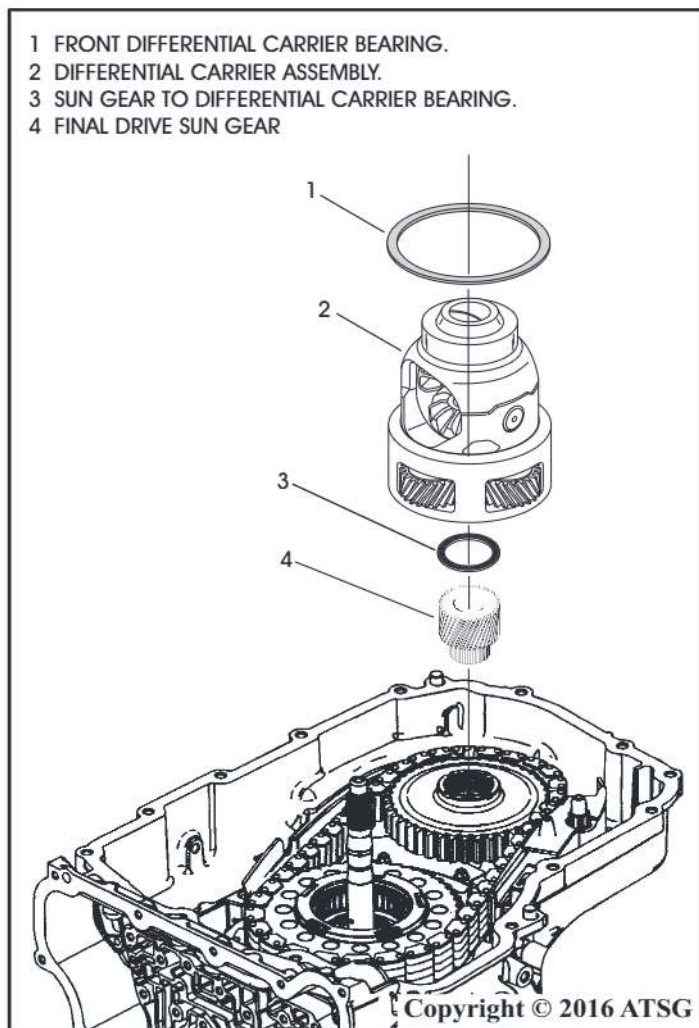

Figure 59
35. Remove the front differential carrier bearing as shown in Figure 59 and inspect the bearing for smooth operation.
36. Remove the differential carrier assembly as shown in Figure 59 and inspect gears for excessive wear.
37. Remove final drive sun gear as shown in Figure 59 and inspect for excessive wear.